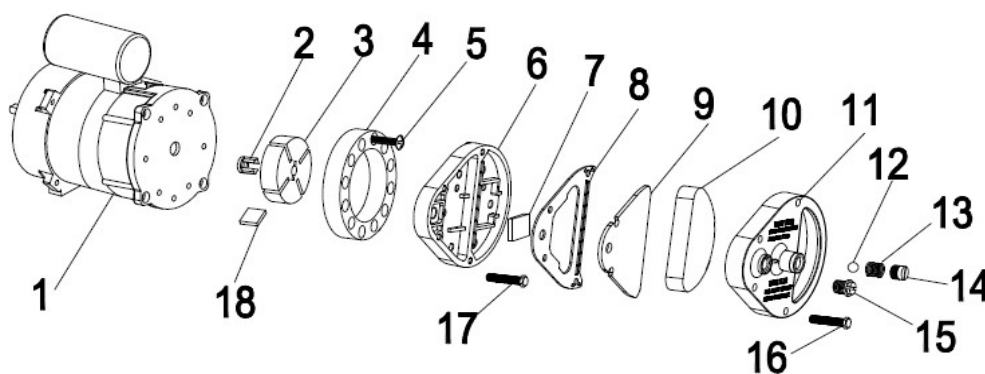

Fig. 3
Clean the air filters. Remove the filter end cap (11), wash the air intake filter (10) with a mild detergent, and dry it thoroughly before reinstalling it. Replace the air outlet filter (9) once a year (Fig. 3)